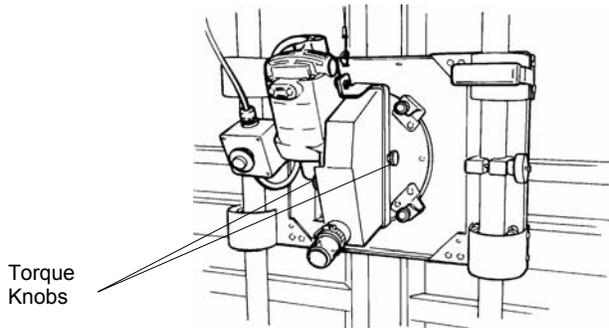

Figure 21: Installing the Blade Guard (Models 6400, 6800)
The blade guard is attached to the carriage with the red torque knobs (22), Figure 20 or Figure 21. Remove the torque knobs to remove the guard. Be sure to leave the rubber washers on the torque knobs because they prevent the knobs from slipping.